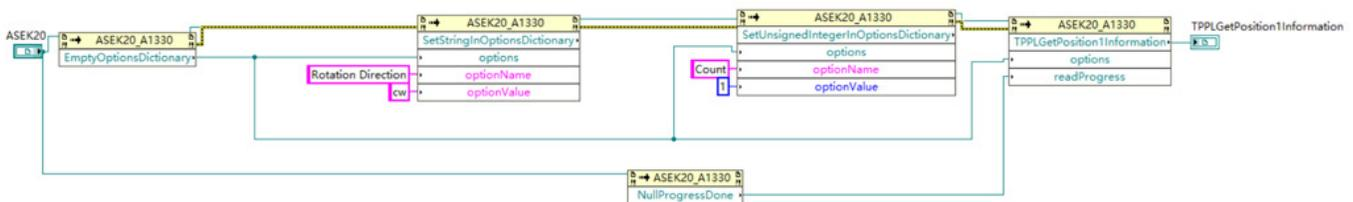
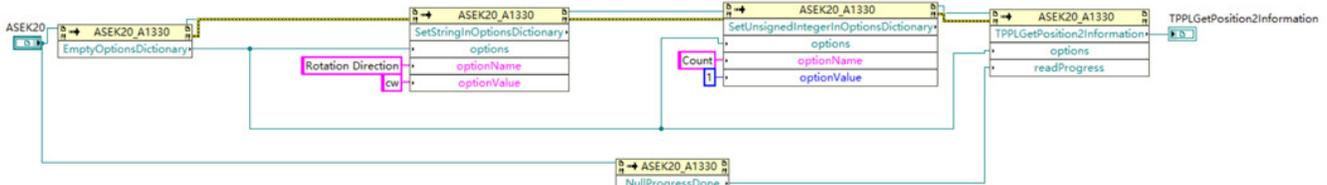

Figure 9: Get Position1 Information
Figure 10: Get Position2 Information
4. Connect wires like Figure 9 to get Object ‘TPPLGetPosition1Information’.
4. Connect wires like Figure 10 to get Object ‘TPPLGetPosition2Information’.
1. Connect Object 'TPPLGetPosition1Information' and Object 'TPPLGetPosition2Information' which are implemented in Figure 9 and Figure 10 to corresponding inputs, as shown in Figure 11.